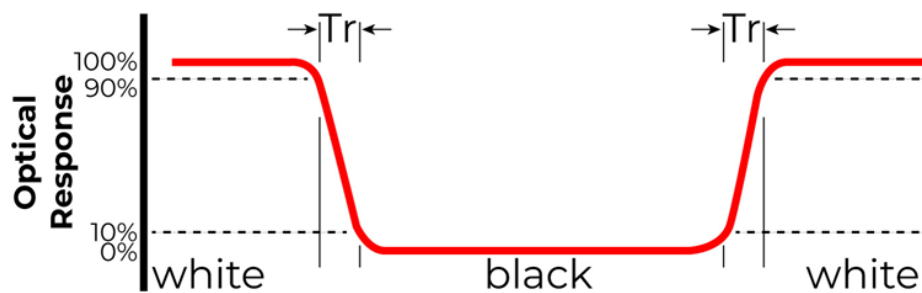

Figure 2. The definition of response time
| Response Time           | Tr+Tf          | $\theta=0^\circ$$\phi=0^\circ$$T_a=25^\circ\text{C}$ | -     | 30    | -     | ms                | FIG 2. | 4    |
**Note 4.** Response time is the time required for the display to transition from white to black (Rise Time, Tr) and from black to white (Decay Time, Tf). For additional information see Figure 2. The test equipment is BM-7A.